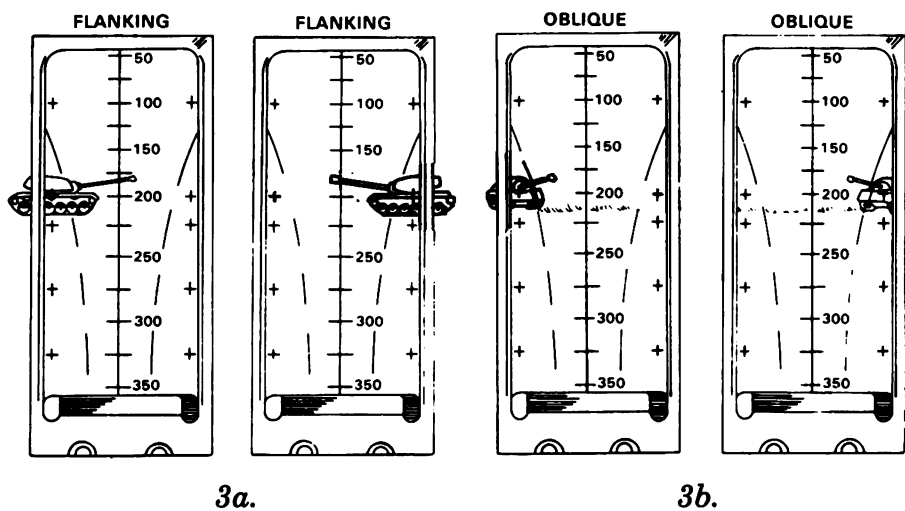

Figure 3. Slow targets at a range of 200 meters.
(2) Applying appropriate lead using lead cross directly opposite estimated range, and
- (a) For slow targets, lead cross should be on center of mass (figure 3).